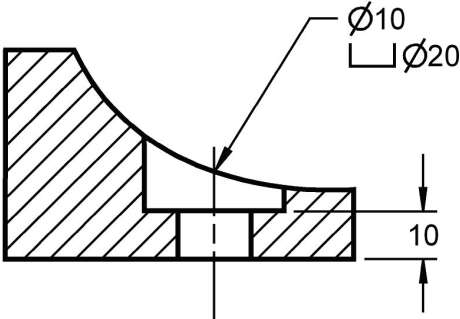

Figure 7.4-12: Spotfaced holes.
- o) Spotfaced holes are similar to counterbored holes. The difference is that the machining operation occurs on a curved surface. Therefore, the depth of the counterbore drill is not given in the note. It must be specified in the rectangular view as shown in Figure 7.4-12.